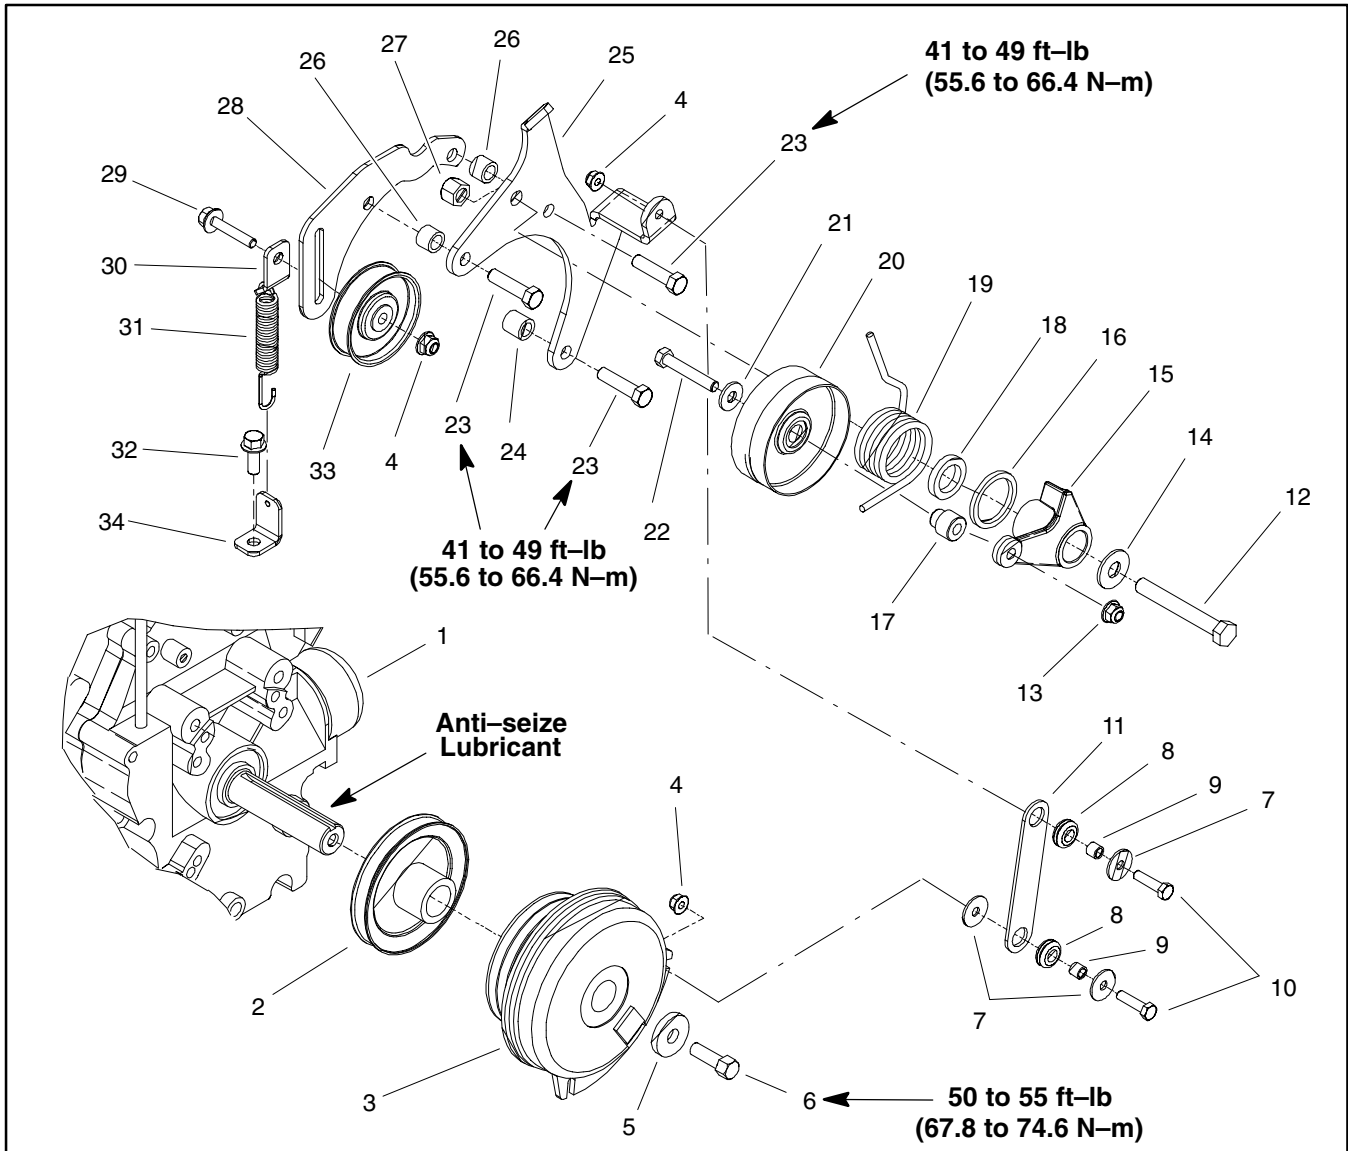

Figure 12
## Removal (Fig. 12)
1. Release tension on idler torsion spring (item 19):
2. Remove belt tensioner components from engine as needed using Figure 12 as a guide.
## Installation (Fig. 12)
1. Install belt tensioner components to engine using Figure 12 as a guide.
3. Apply tension to idler torsion spring (item 19):